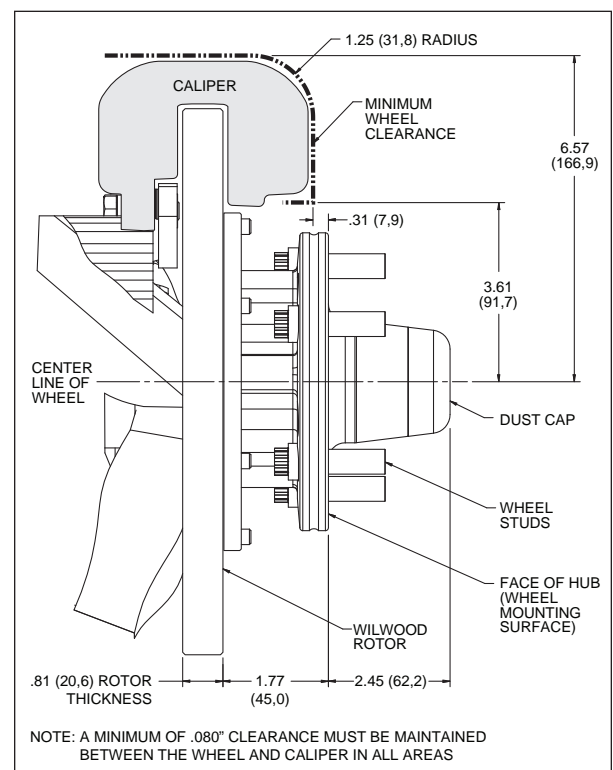

Figure 3. Wheel Clearance Diagram
- Review the Wheel Clearance Diagram (Figure 3, page 5) to verify that there is adequate clearance with the wheels you will be using with the installation.
- Verify wheel clearance utilizing Figure 3.
- **WARNING:** The wheel contact surfaces must seat completely on the face of the hub. If any contact surfaces overhang the outside diameter of the hub face, a 6.60" diameter x .20" thick steel spacer (item 21, Wilwood P/N 300-11961) MUST be used between the wheel and the hub.